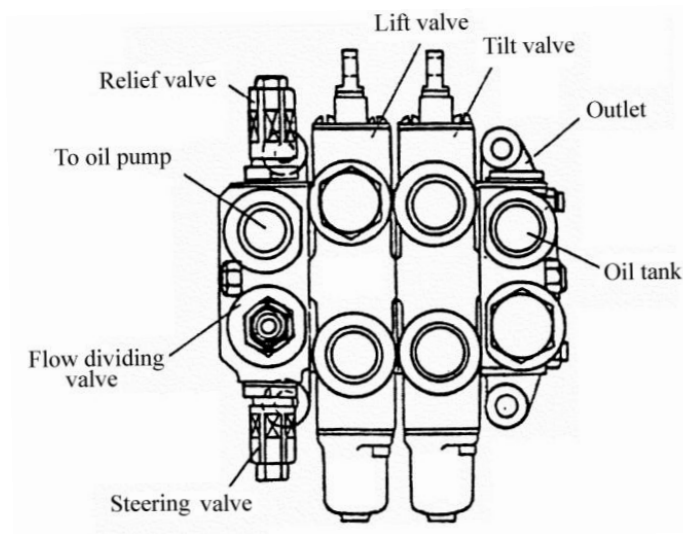

Fig.6.1 Control valve
6.3 Control valve (See Fig.6.1)